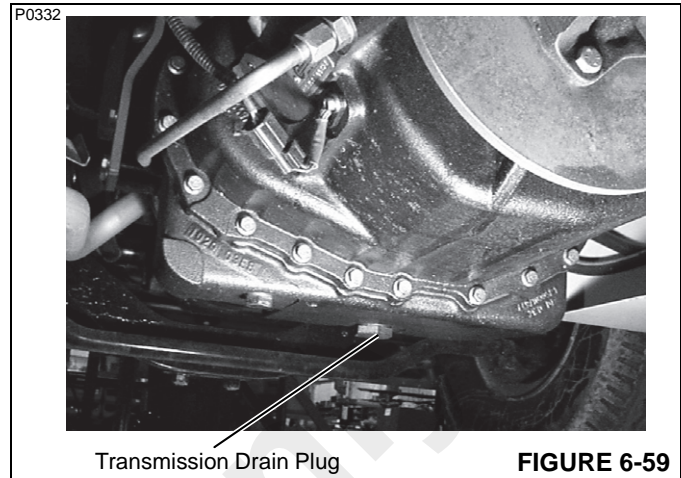

FIGURE 6-59
3. Place the container under the drain plug and remove the drain plug (Figure 6-59). Drain any oil left in the transmission into the container. Install the drain plug.